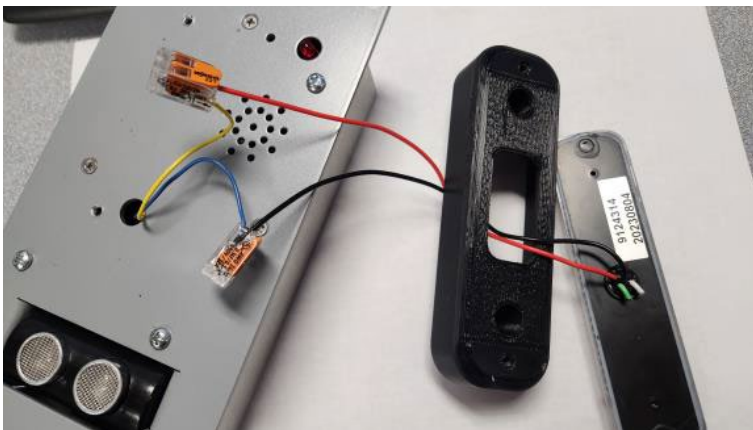

Figure 8: All wires properly connected using 2 wire splice connectors
- Raise both levers on 2 wire splice connectors, then insert red wire into one connector slot and yellow wire into other slot. Push both levers down to fasten wires. Repeat the previous step for black and blue wires. Figures 8 and 9.